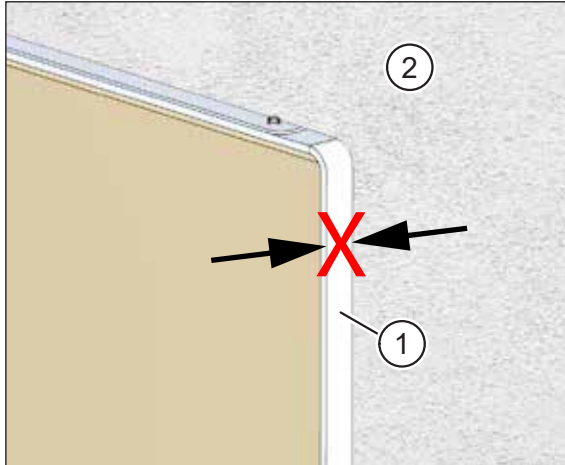

Fig. 61: The plastering trim must NOT protrude above the cladding
- The plastering trim must NOT protrude above the eventual internal wall cladding (see Fig. 61 on page 51) otherwise there will be an unsightly gap between the plastering trim and the unit cover (U² cover).
- The plastering trim (item 1 in Fig. 61) must NOT protrude above the plasterboard (item 2 in Fig. 61).